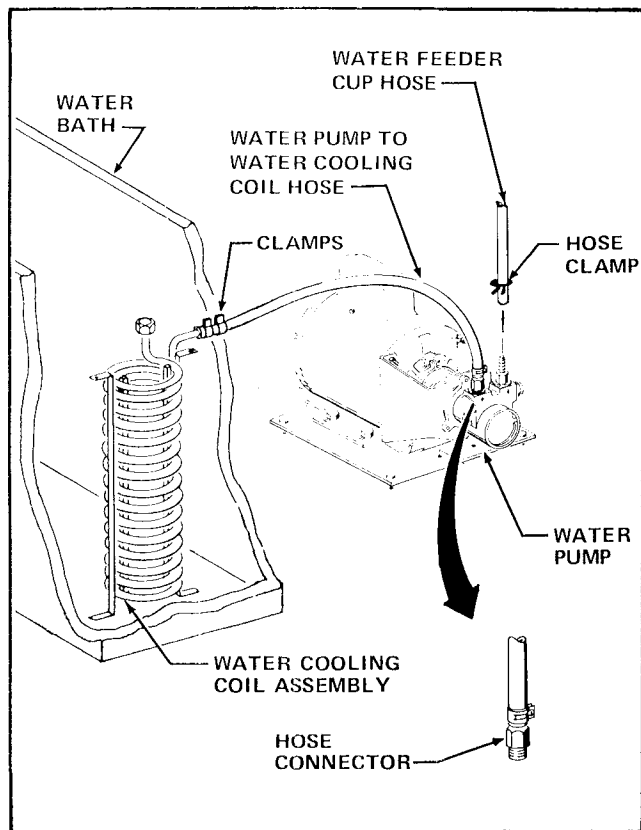

FIGURE 4
8. Remove the Water Feeder Cup Hose and Hose Clamp from the Water Pump Inlet Port and drain into the Waste Pail. See Figure 4.
9. At the Water Cooling Coil, loosen and move two Clamps attaching the Hose that connects to the Water Pump. See Figure 4.
12. Remove the Water Pump to Water Cooling Coil Hose and Hose Connector from the Water Pump Outlet Port. See Figure 4.